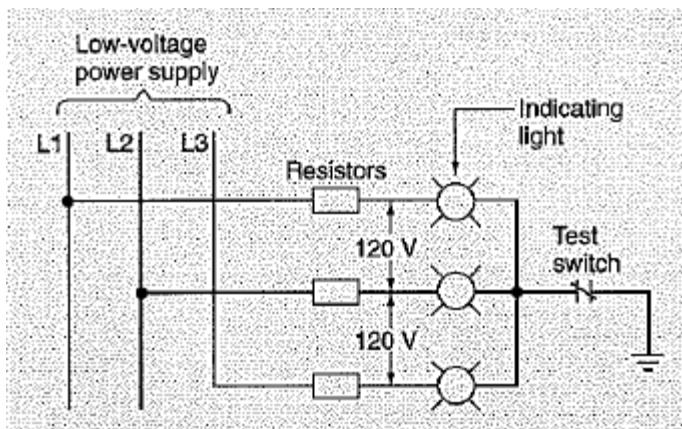

Figure 4.15: Low-Voltage Ground-Detection Circuits
- 4-48 Each of the three potential transformer primaries is connected from phase to ground. Under normal conditions, the potential difference from the primary to ground equals the line-to-line potential difference divided by the square root of 3. For the circuit shown in Figure 4.15, this value is 120 V divided by the square root of 3, which is about 69 V.
- 4-50 A low-voltage system (under 600 V) uses the same principle of ground detection. A common, inexpensive method is to use resistors in series with the indicating lights, arranged as in Figure 4.15. The resistors serve only to reduce the potential difference between the lines to the 120 V rating of the indicating lights. Potential transformers may also be used.